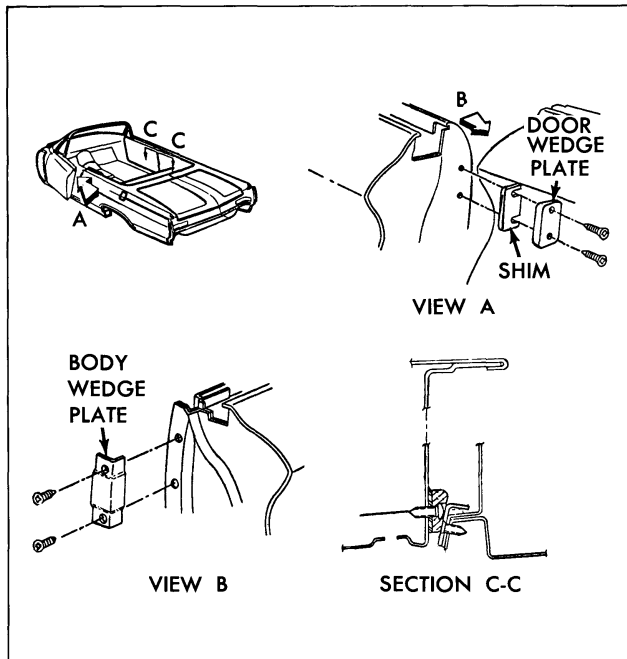

Fig. 3-26 Convertible Wedge Plates
1. Remove two screws securing wedge plate to body panel and remove wedge plate (Fig. 3-26).